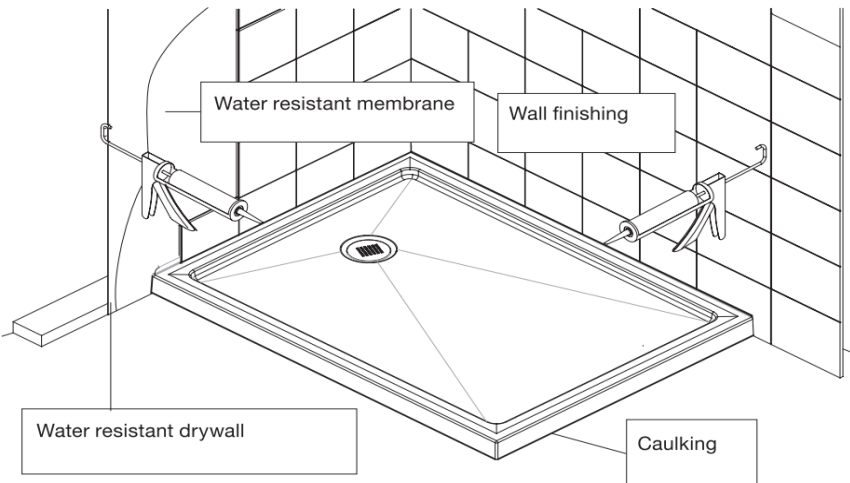

Fig. 7
- Apply a bead of sealant between the apron and the finished floor and wait for 24 hours before using the shower. Tape over the strainer to protect the finish and prevent construction debris from entering the drain. (Fig 7)